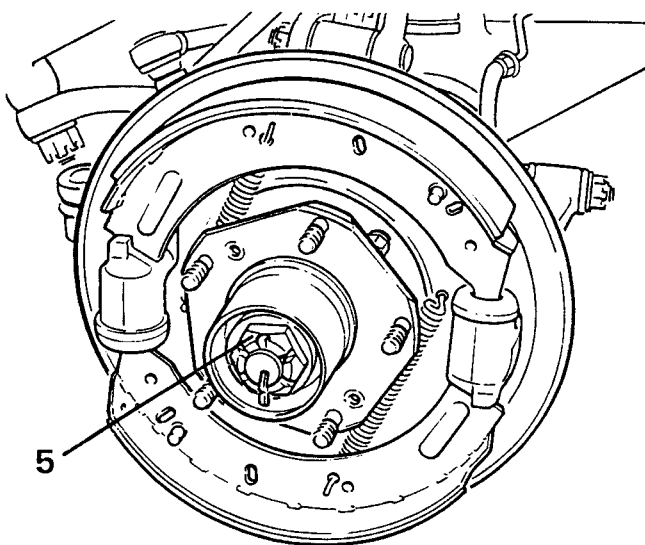

Figure 2
5. Remove the split pin, castellated nut and flat washer from the stub axle. See figure 2.